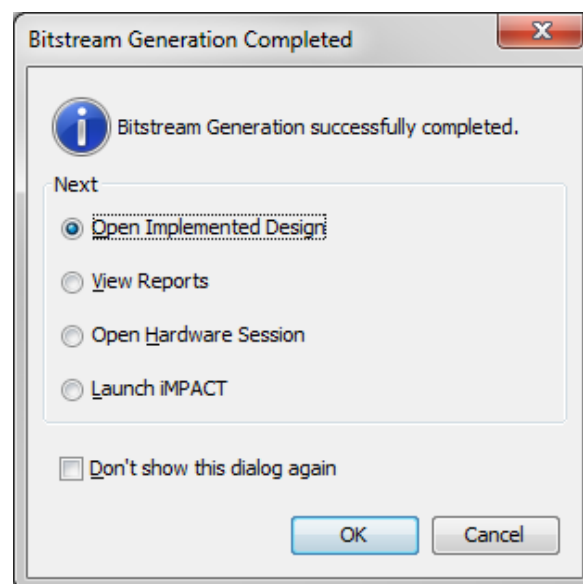

Figure 2.19: Bitstream Generation completion dialogue window
- (t) Once the bitstream generation is complete a dialogue window will open to inform you that the process has been completed successfully, as in Figure 2.19.